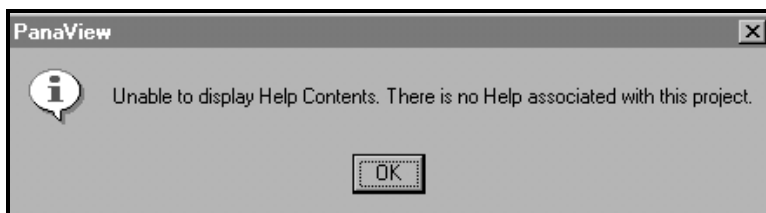

Figure 23: Online Help Unavailable
**Note:** *In some early versions of the PanaView software, the online help functionality was not yet implemented. In such cases, attempts to access the online help file generate the message shown in Figure 23.*
If the message shown in Figure 23 appears upon clicking the “*Contents*” or “*Search For Help On...*” option, online help is not available with your version of PanaView. Simply click on the [OK] button to return to the main PanaView window.